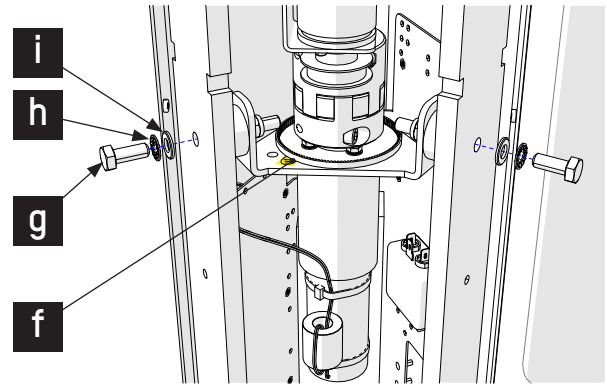

Fig. 36 - Belt replacement (Motor bracket)
7. Remove the motor bracket fasteners, screws **(g)** and washers **(h)** and **(i)** from the motor bracket **(f)** (Fig. 36);